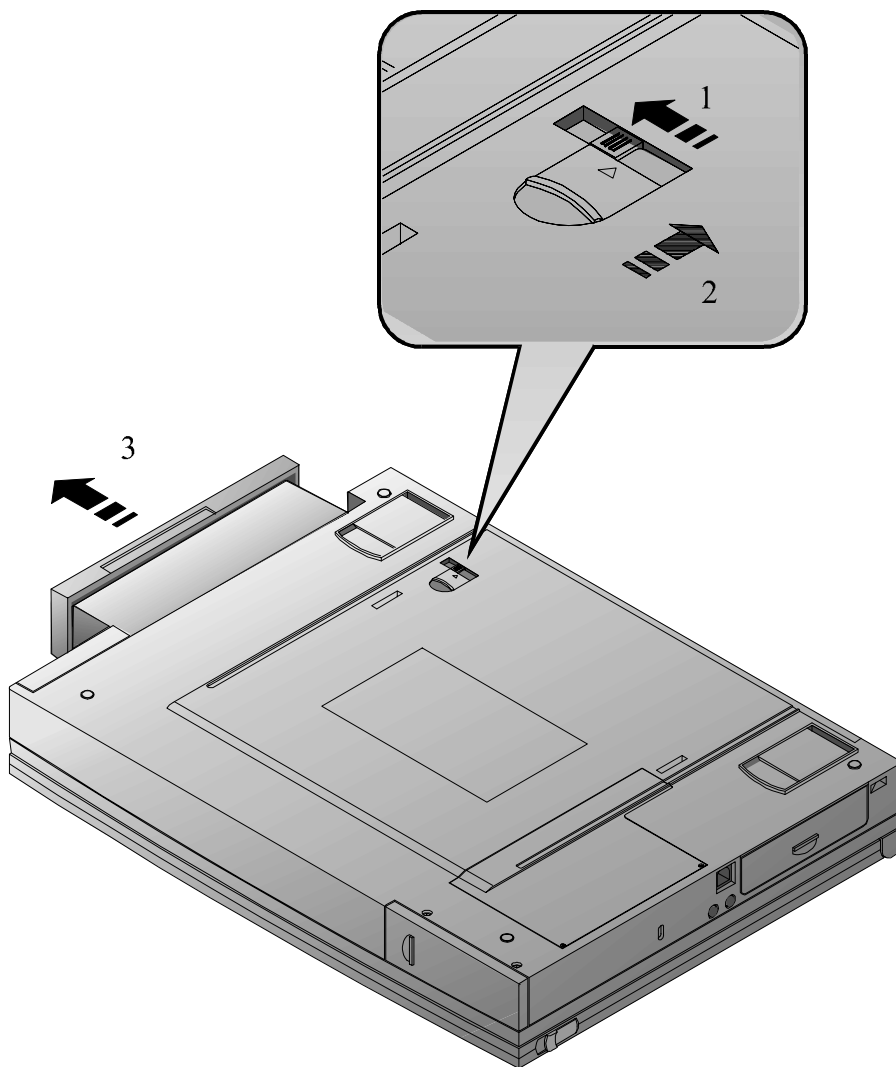

Figure 6-3: Removing a Module from the Expansion bay
1. Slide the locking button in the direction of the arrow shown in step 1 of figure 6-3. This will unlock the Module Release latch.
2. Slide and hold the Module Release latch in the direction of the arrow shown in step 2 of figure 6-3.
3. Holding the Module Release latch in this position, slide the module out of the expansion bay. Please see step 3 in figure 6-3.